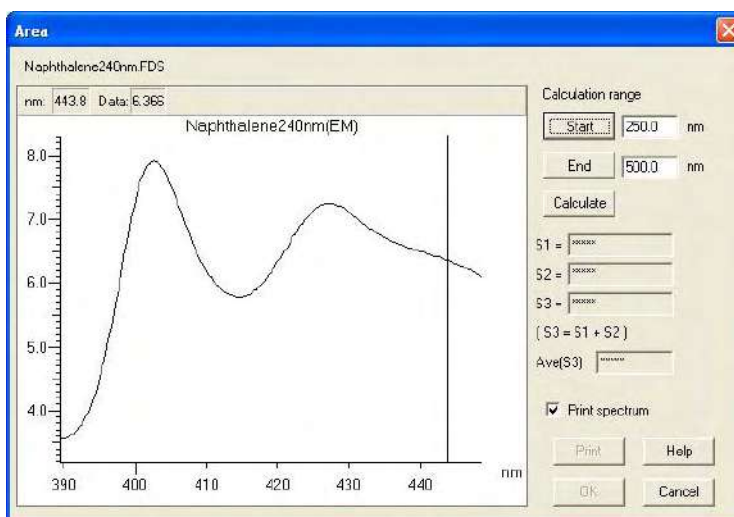

Fig. 7-38
- (2) Then release the left button. The specified area will be expanded as shown in Fig. 7-38.